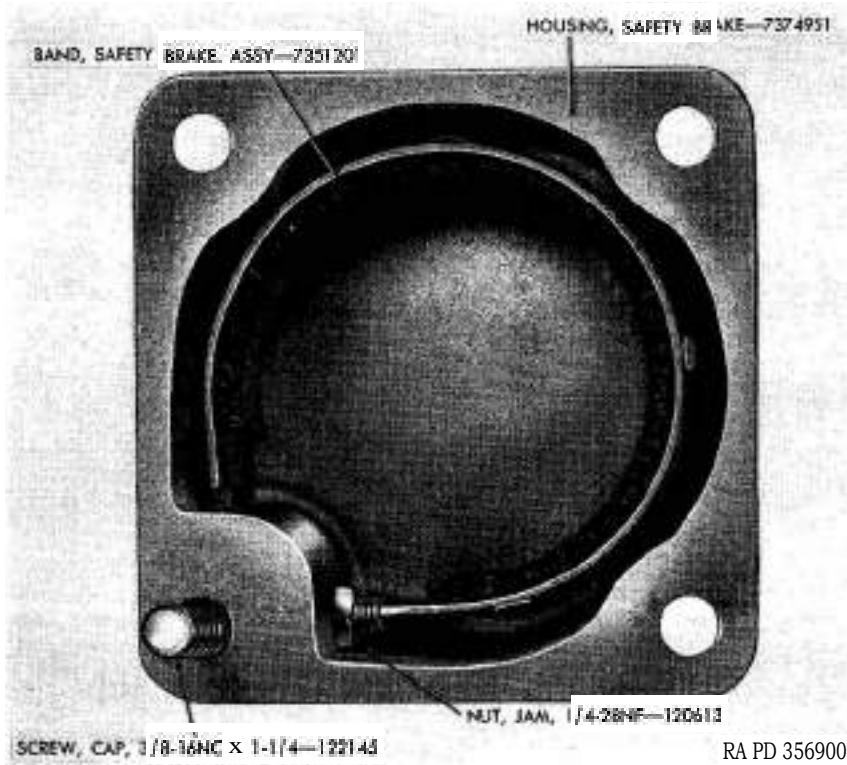

Figure 228. Safety brake band assembly in housing.
f. Install Safety Brake Band Assembly in Safety Brake Housing (fig. 228).
- (1) Install a $\frac{3}{8}$ -inch lock washer and $\frac{3}{8}$ -16NC x $1\frac{1}{4}$ cap screw in safety brake housing adjacent to holes that are drilled for the threaded ends of the safety brake band assembly, as this screw cannot be installed after the safety brake band assembly is in the housing.
- (2) Install $\frac{1}{4}$ -28NF jam nut on short threaded end of safety
brake band assembly. Position safety brake band assembly in safety brake housing as illustrated in figure 228 (short threaded end of safety brake band assembly at bottom). Install ~~1/4-28NF~~ jam nut on outside end of short threaded end of safety brake band assembly. Position jam nuts so that threaded end of safety brake band assembly will be approximately flush with outside nut, when nut is tightened.